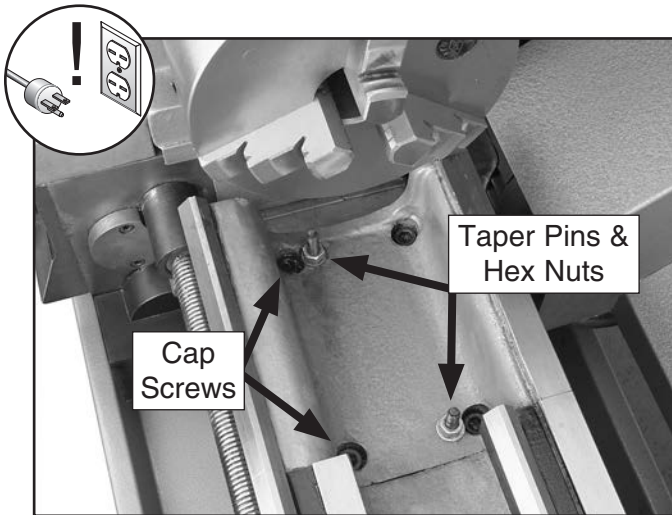

Figure 100. Gap taper pins and cap screws.
2. To release the taper pins from the gap, slowly tighten the taper pin hex nuts (see **Figure 100**), then remove the pins.